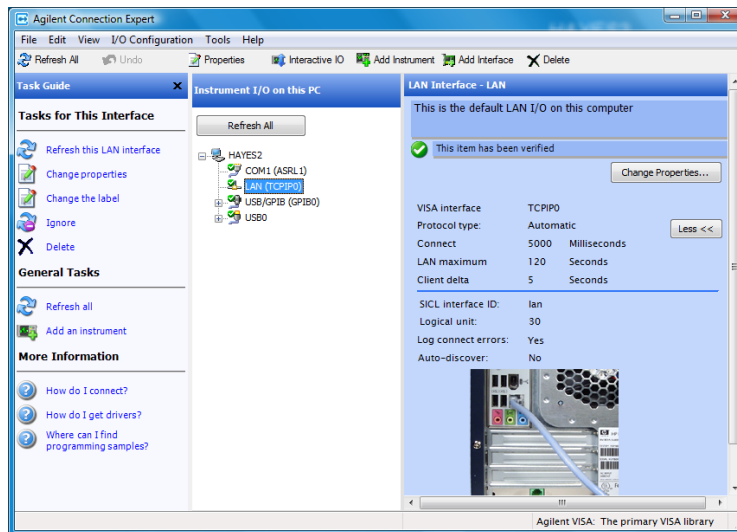

Figure 34 Agilent Connection Expert, LAN Connections
Click the Agilent IO Control icon in Windows' Notification area, and select **Agilent Connection Expert**. When the main screen appears (Figure 34), you will see a map of the system connections in the Explorer Pane, **Instrument I/O on this PC**. If the interface and instrument(s) you want to configure display in the Explorer Pane, proceed to “Step 4: Communicate with Instruments” on page 114!
- 1 From the Connection Expert main screen, select the LAN interface node in the Explorer Pane (center pane). **LAN (TCPIP0)** is selected in Figure 34. Right-click to get a menu and select **Add Instrument**. (Alternatively, you could click the **Add Instrument** button on the tool bar, the Task Guide, or the I/O Configuration menu.)